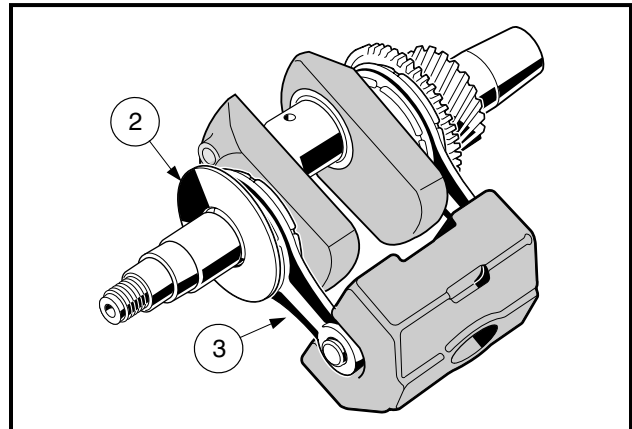

Figure 18-66 Crankshaft and Counterbalance
2. Pull out the crankshaft and the counterbalance together as an assembly (Figure 18-66, Page 18-32).
1. Slide the spacer (2) and the link rod (3) off the flywheel end of the crankshaft. Remove the counterbalance from the remaining link rod (Figure 18-66, Page 18-32). Go to Link Rod Inspection on page 18-34.